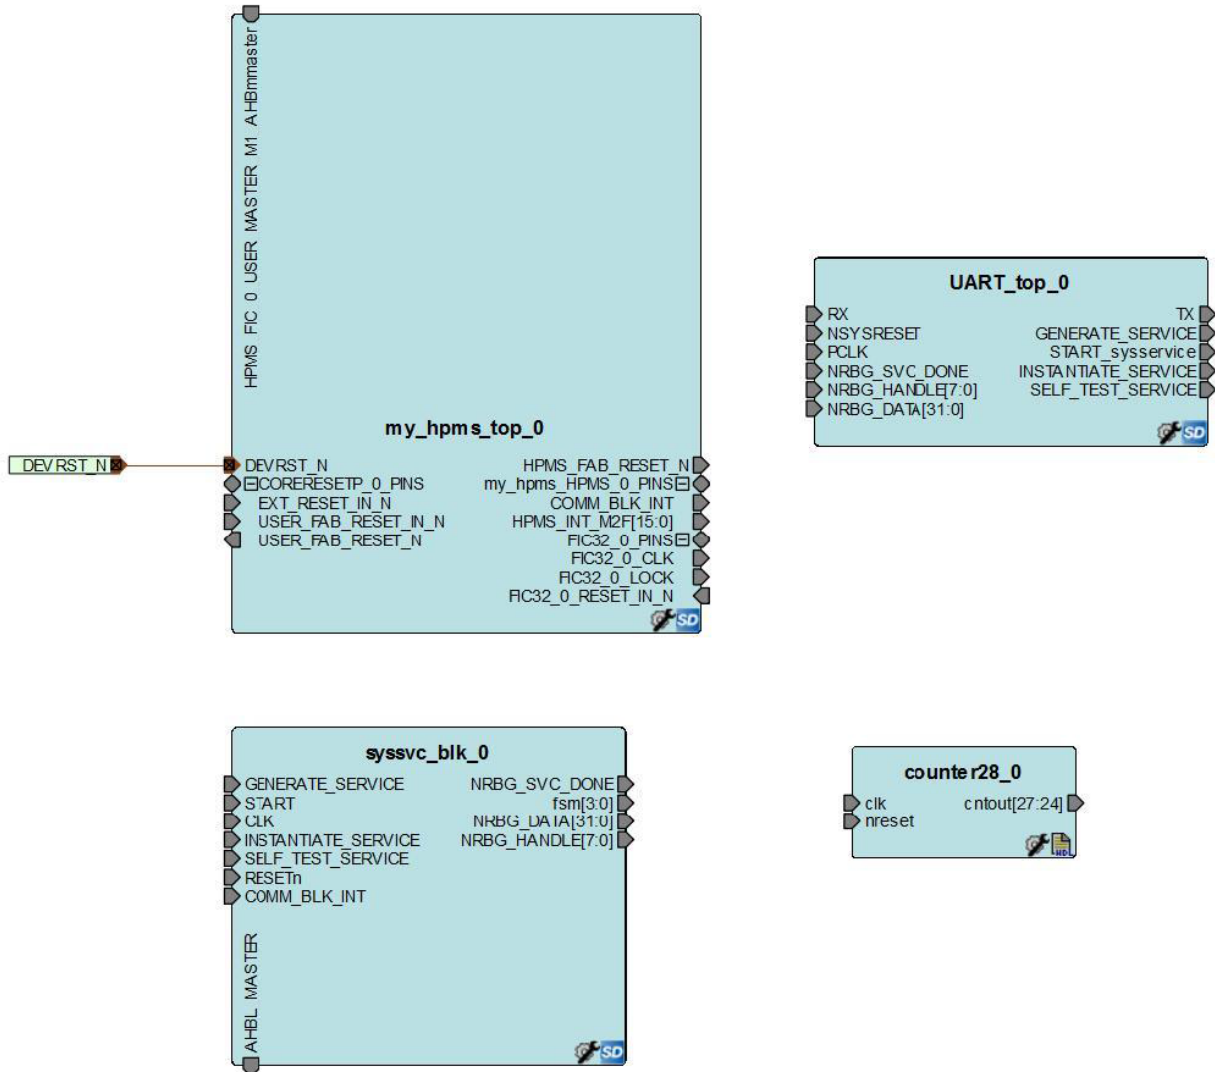

Figure 31 SmartDesign Canvas After Adding the Components
3. Drag an instance of the **UART_top**, **sysvc_blk**, **my_hpms_top**, and **counter28** components into the SmartDesign canvas, as shown in Figure 31.